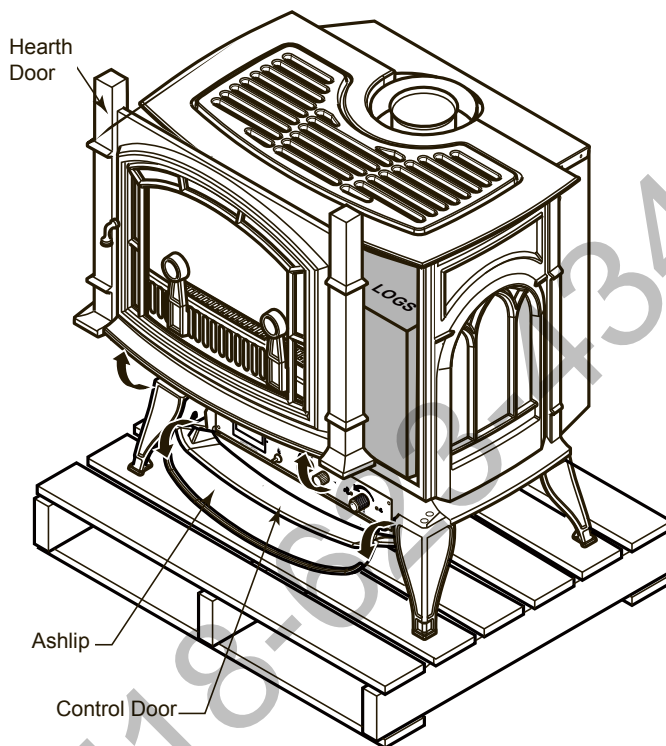

Figure 7 -
2. Open plastic bag and slide to bottom of unit. *Figure 7*